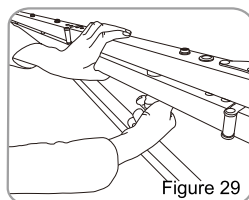
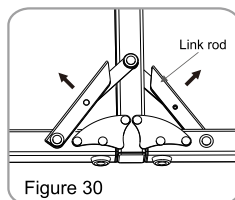

Figure 29
Figure 30
4. Screw off the locknuts on both legs and as Figure 29, and take off the legs. Pull up the legs' corner link rod and screw off the screws, retract the leg tubes and fasten the screws again. Unfasten the turning joint locks and fold the frame and legs (Figure 30 - 32).